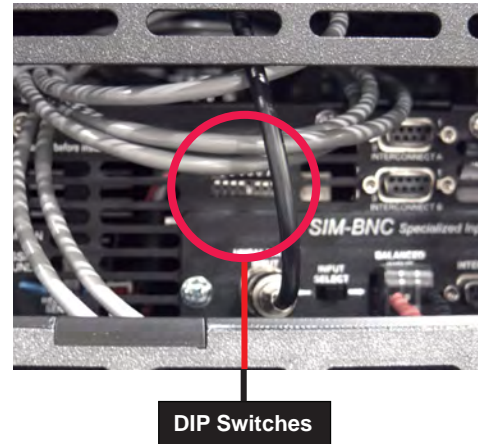

Figure 4.1 – Location of Amplifier Module's DIP Switches
Setting: Open the system's access door located on the back of the unit. Find the bank of eight (8) DIP switches located on the amplifier module's back panel. See **Figure 4.1**.